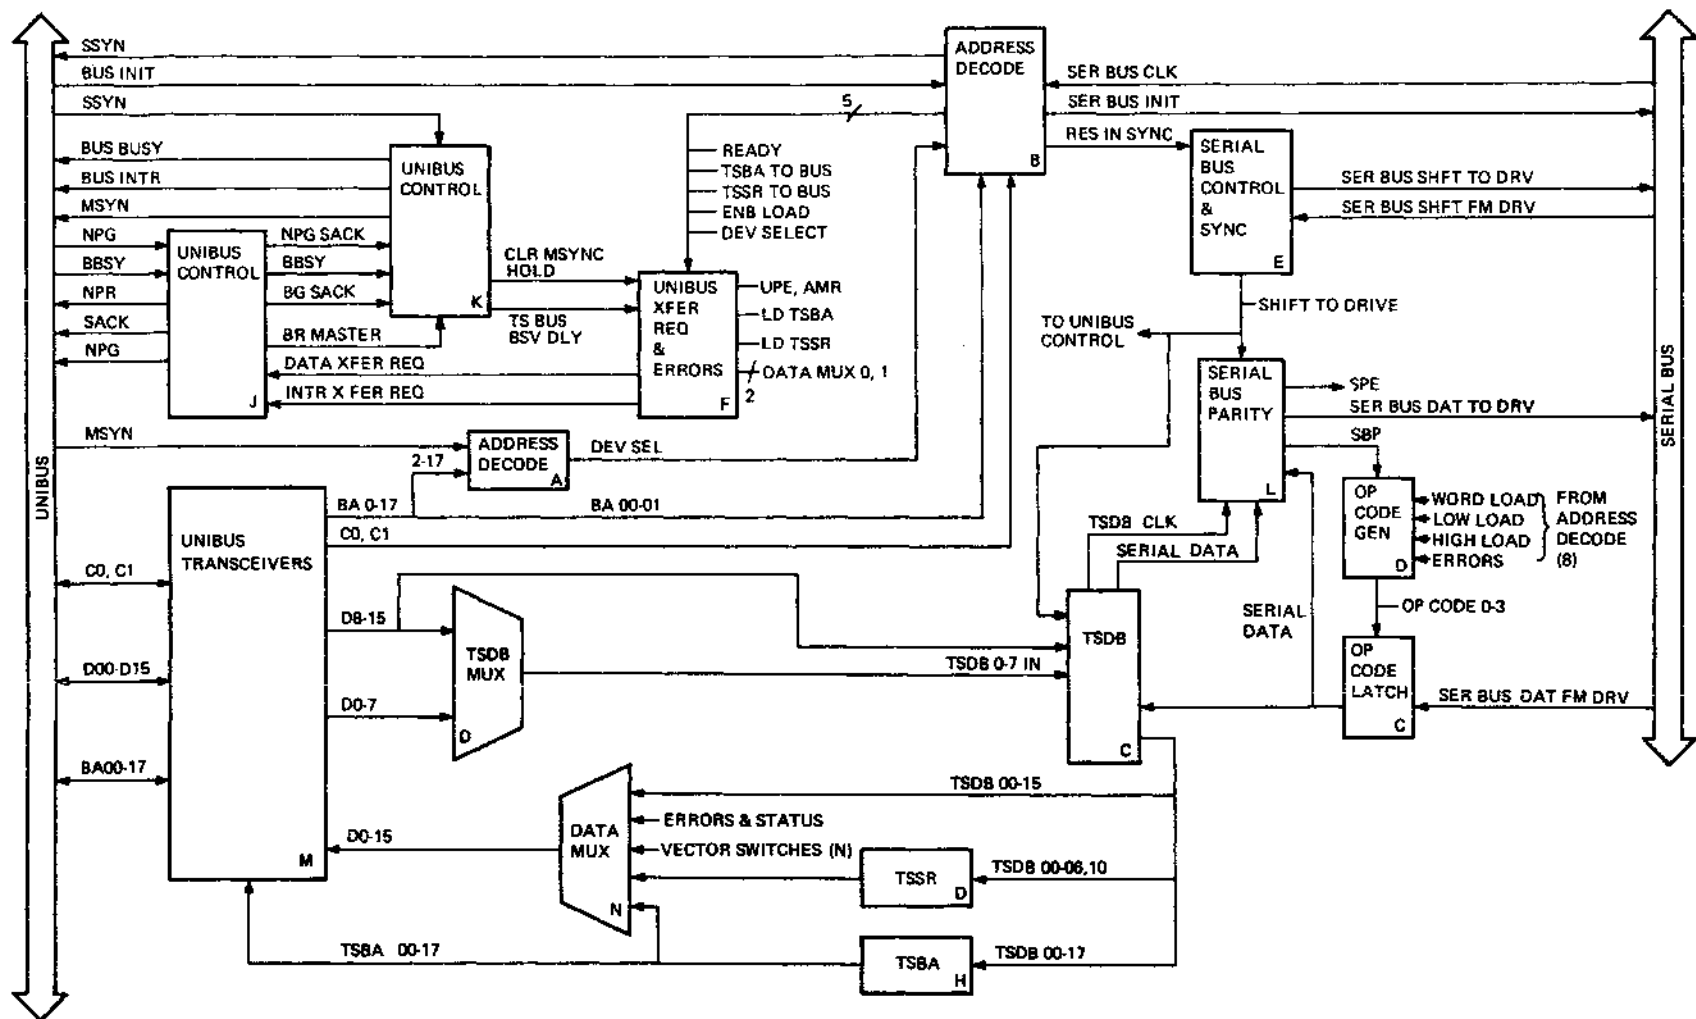

Figure 6-10 M7982 Data Path
6.4.2.1 M7982 Data Path (Figure 6-10) – The major data path of M7982 centers around the TSDB (C). All serial and parallel data entering M7982 passes through the TSDB.